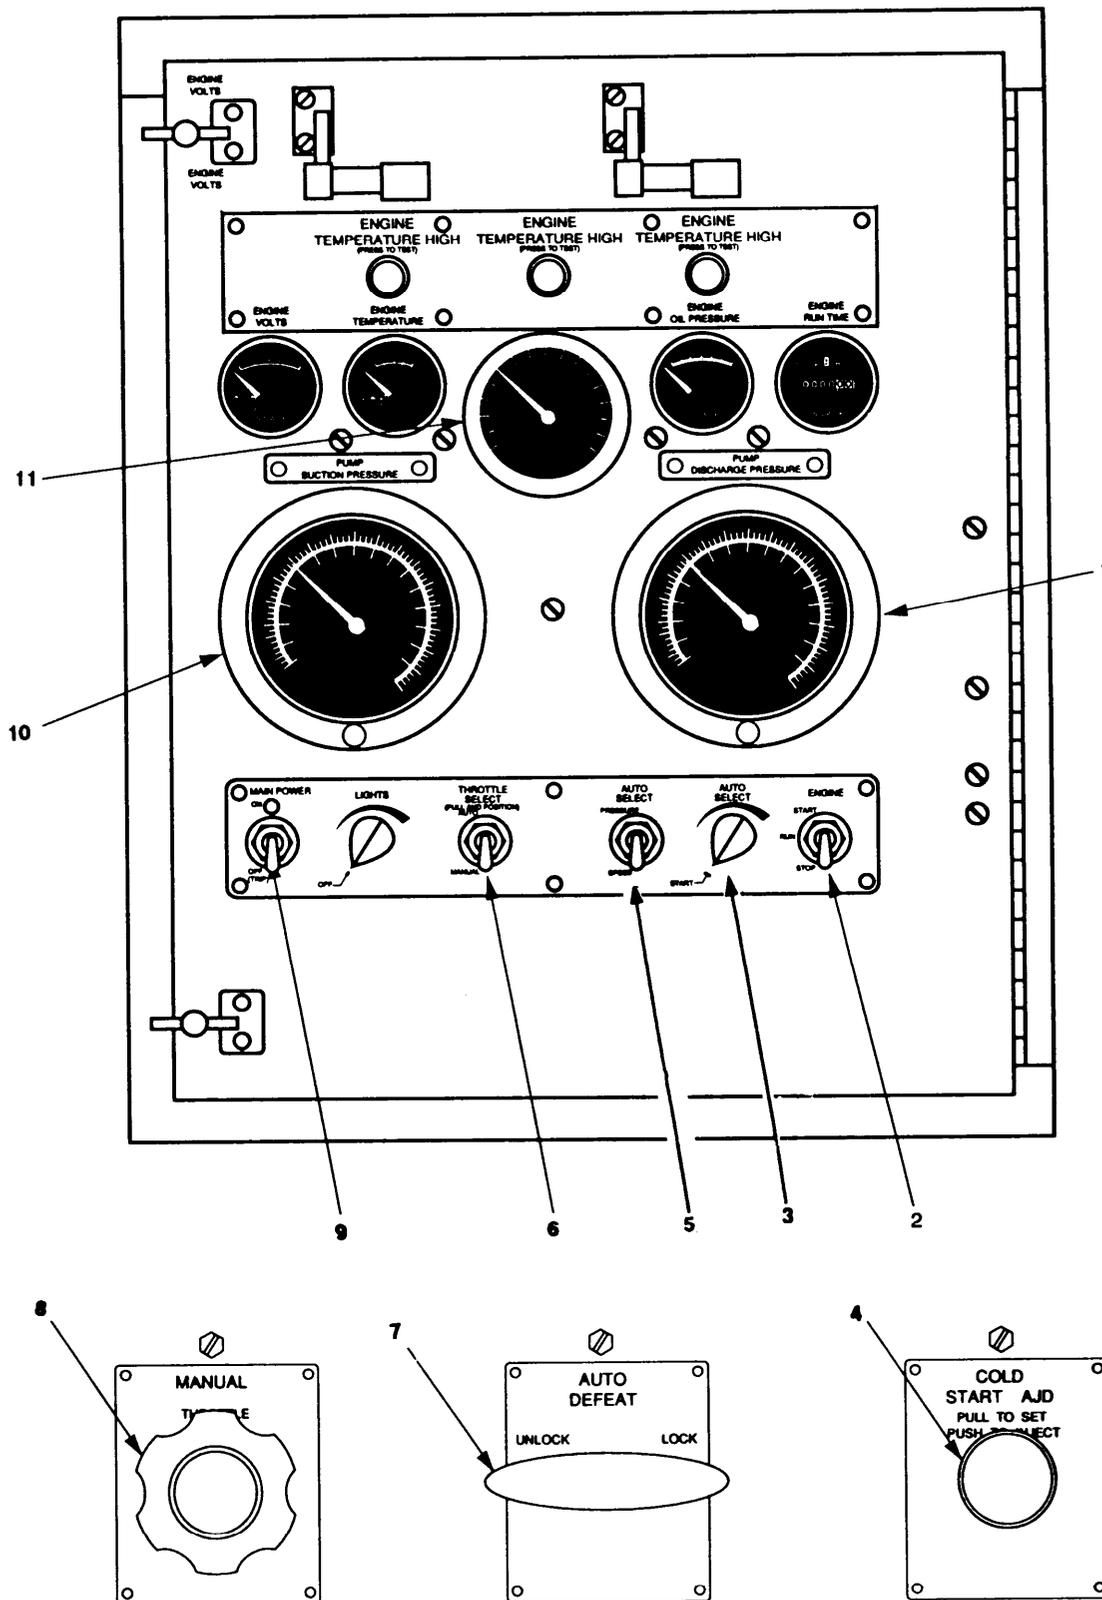

Figure 2-25. Model 609-C Controls Used for Automatic Operation.
2.5.2.2 Automatic Mode. Refer to Figure 2-25 and start and operate pumping assembly as follows:
- b. Turn MANUAL THROTTLE (8) fully clockwise.